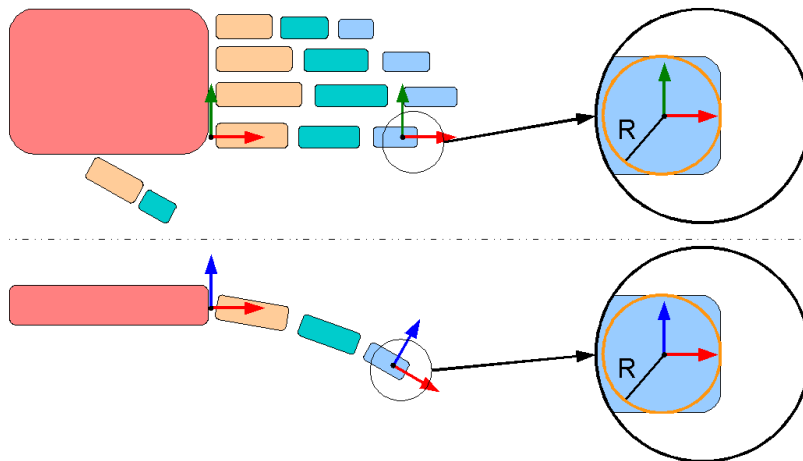
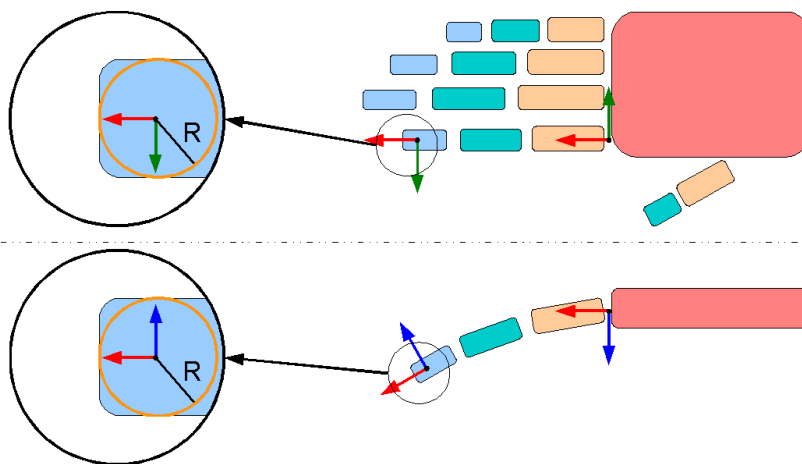

Figure B.2: Model of a human left hand
Figure B.3: Model of a human right hand
For the left hand see figure B.2 on page 257, for the right hand see figure B.3 on page 257):
For the left hand see figure B.2 on page 257, for the right hand see figure B.3 on page 257): Given the length of each phalanx and the angles between them, it is possible to reconstruct the entire finger.
-  **The data shown in the Fingertracking display is NOT the position of the finger tip! For calculating the finger tip position you need to consider radius R like shown in figure B.2 on page 257.**